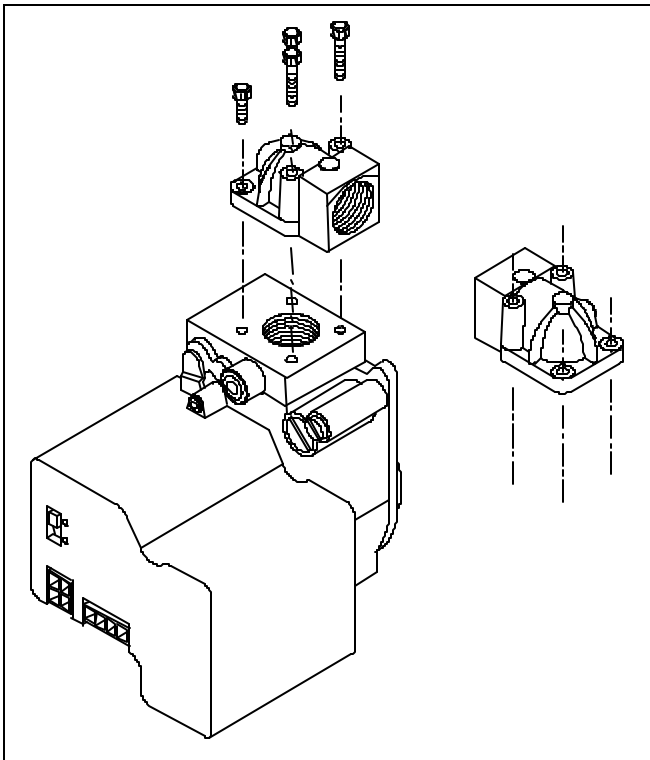

Figure 20. Changing direction of gas-control-inlet elbow.
- ?? For gas line entry through the knockout in the left side of the casing, reverse the furnace gas control inlet elbow, as shown in Figure 20. 1/2" NPT pipe can now be attached to the furnace gas control from the left side. See instructions below for changing furnace gas control inlet elbow.
- ?? For gas line entry through the knockout in the top plate, remove the furnace gas control inlet elbow, shown in Figure 20. 1/2" NPT pipe can now be attached directly to the furnace gas control.
- ?? For gas line entry through either of the upper knockouts located in the right and left sides of the casing, remove the furnace gas control inlet elbow, shown in Figure 20. 1/2" NPT pipe can now be attached directly to the furnace gas control. See instructions below for changing furnace gas control inlet elbow.